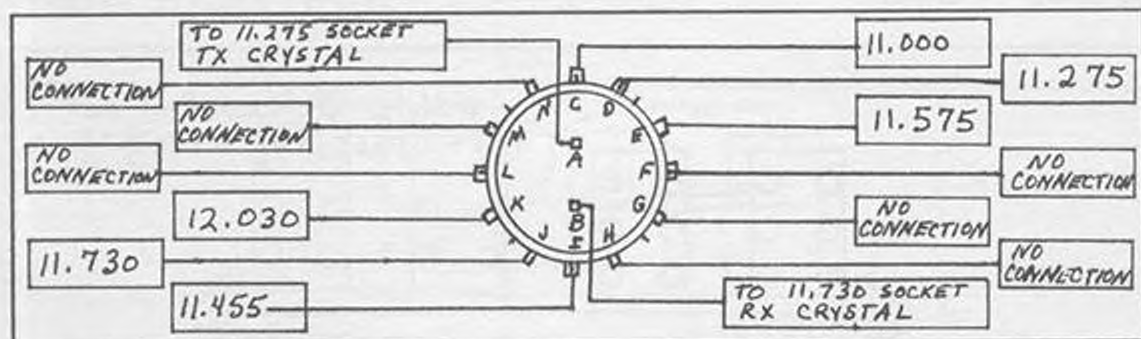

FIGURE 1. 23 CHANNELS RADIOS
3. REFER TO FIGURE 1. ADD THE NEW CRYSTALS AS SHOWN. CONT.NOTE: BE CAREFUL TO KEEP THE RECEVE CRYSTALS AND THE TRANSMIT CRYSTALS IN THE CORRECT SEQUENCE ON SWITCH 1.